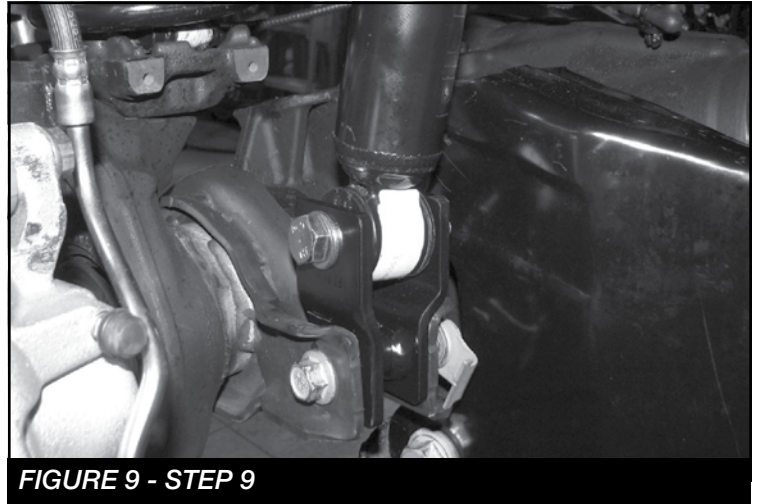

FIGURE 9 - STEP 9
9. Locate the supplied M14-2.0x80mm HEX bolts, washers and nuts. Re-install the factory shock using the supplied M14 hardware. Torque the lower shock bolt to 160 ft-lbs. **SEE FIGURE 9**